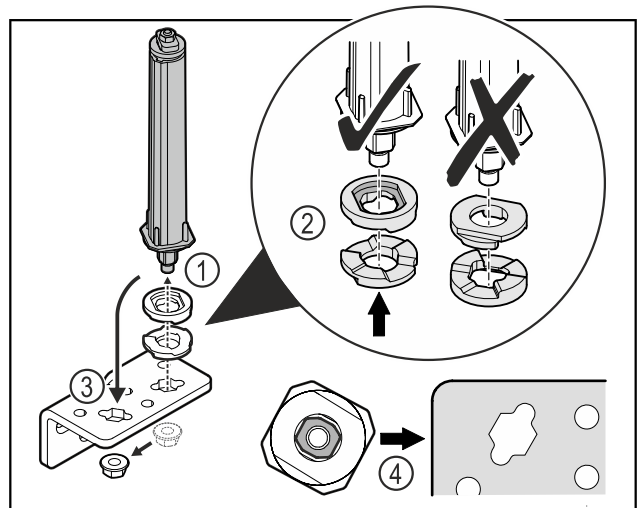

Fig. 58
- Loosen the nut and remove the door closing system Fig. 58 (1).
- Observe the correct alignment of the height adjustment washers Fig. 58 (2).
- Put the door closing system in the hinge and fix in place with the nut Fig. 58 (3).
- Observe the correct alignment of the door closing system when doing so Fig. 58 (4).